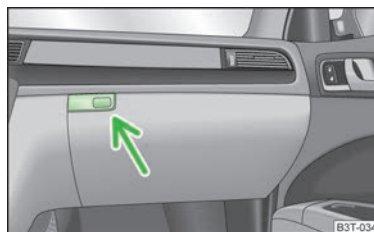

Fig. 87
- Press the button » Fig. 87 and the lid folds down.